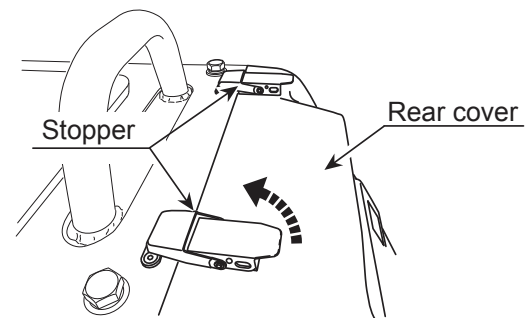

Figure 30. Opening Rear Cover.
1. Unlatch the two stoppers at the top portion of the rear cover to open the rear cover (Figure 30).